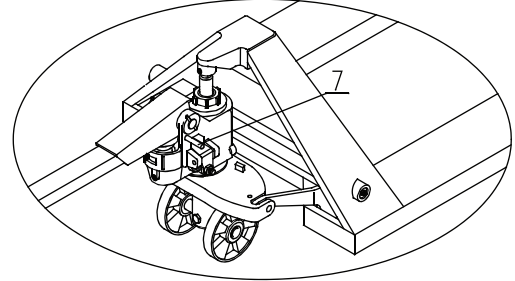

Fig. 3.
- See fig 3, turn the hand grip to the level position, pull out pin 7 and save pin 7 with care for next use.